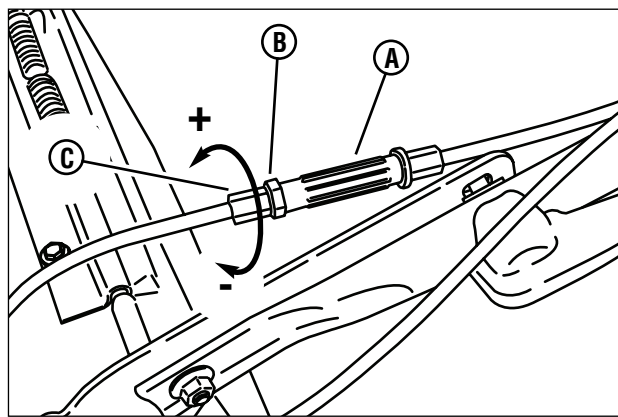

Figure 20: Adjusting the transmission spring tension
- b. To increase (+) the extended spring length, loosen the jam nut (**B, Figure 20**) and rotate the ferrule (**C**) below the adjustment turnbuckle (**A**), located on the lower end of the wheel drive control cable, one-half turn out from the turnbuckle. Tighten the jam nut.